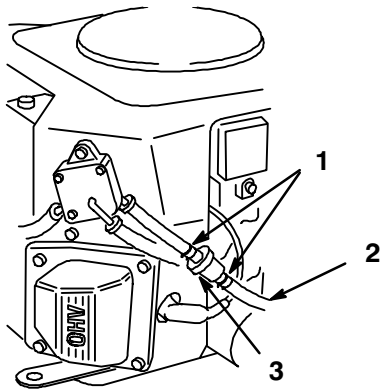

Figure 31
4. Squeeze the ends of the hose clamps together and slide them away from the filter (Fig. 31).